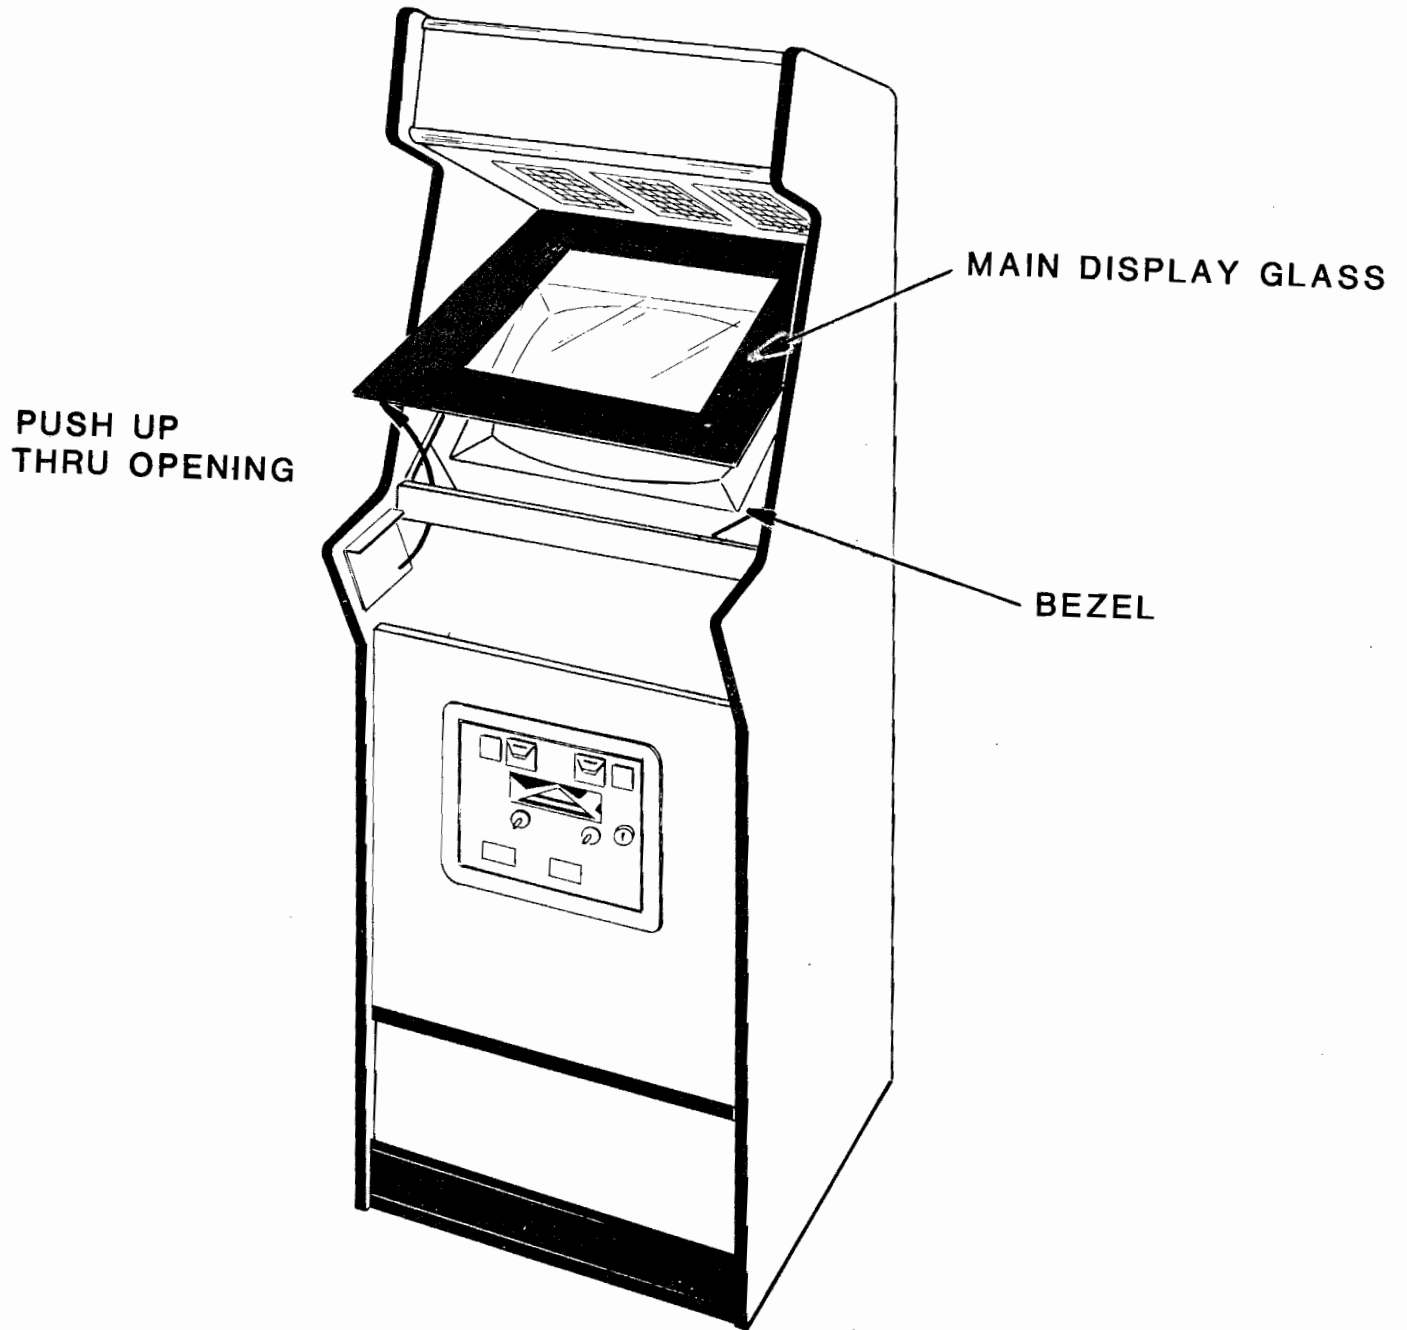

FIG.15
- c. Remove the screws which secure the T.V. bezel in place and lift it out. See Figure 15.